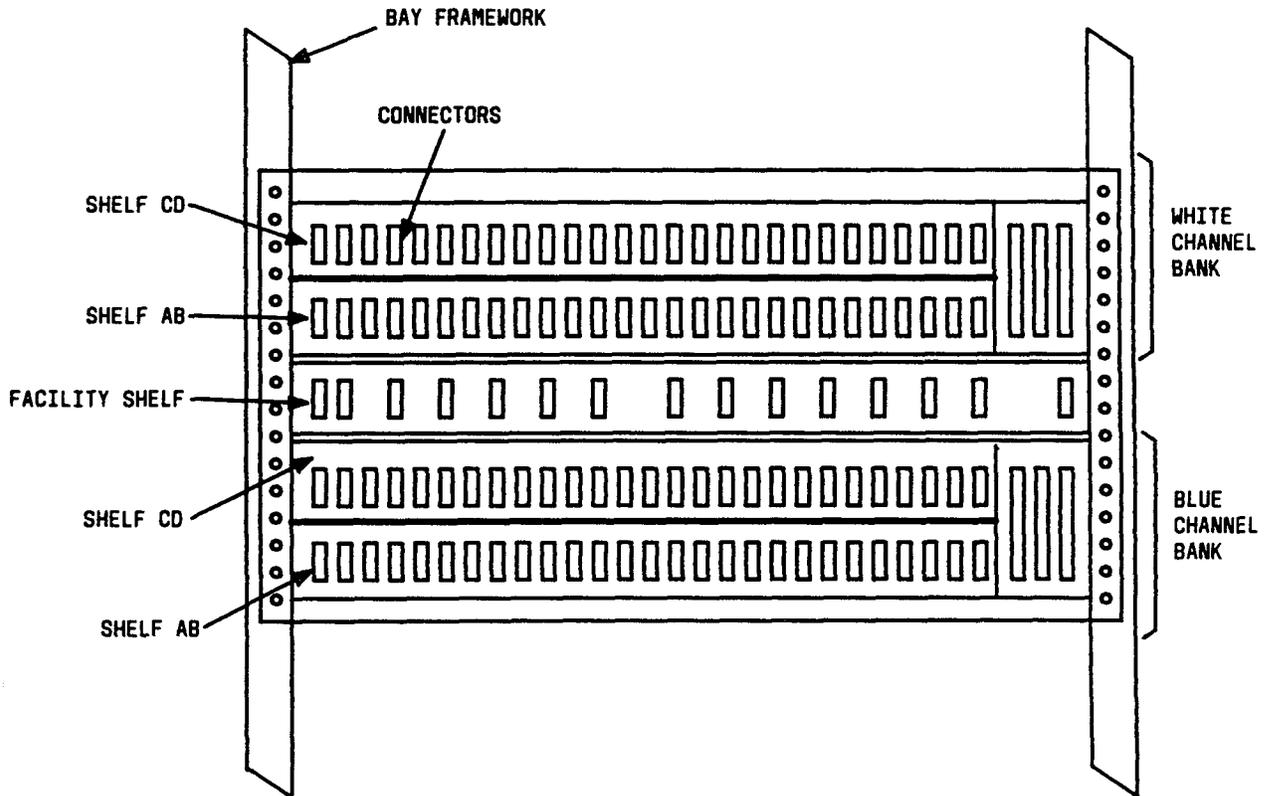

Figure 1—COT Assembly Shelves
1. Locate five shelves that will house equipment in bay (FIG. 1).